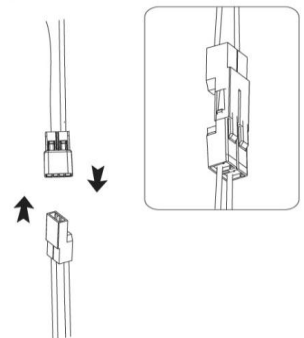

Fig. 4
5. Plug the female connector of the disk light and male connector of the housing directly. (Fig.4)